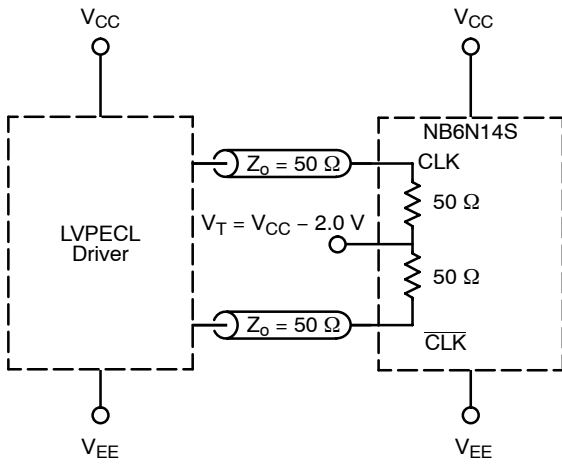

Figure 6. LVPECL Interface
**DIFFERENTIAL INPUTS DRIVEN DIFFERENTIALLY** (Figures 6, 7, 8, 9, 16, and 18)